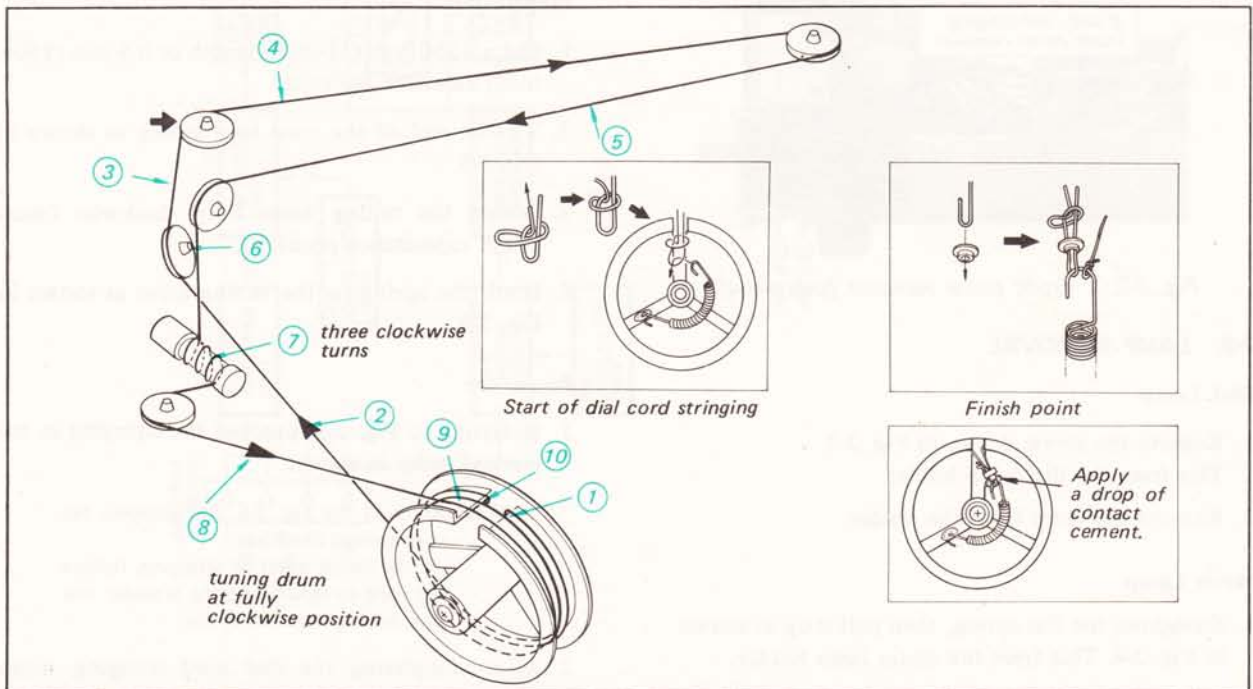

Fig. 2-5. Dial cord stringing
2. Tie the end of the cord to a spring as shown in Fig. 2-5.
4. Hook the spring to the tuning drum as shown in Fig. 2-5.
1. Referring to Fig. 2-5, proceed the stringing in numerical order as shown.